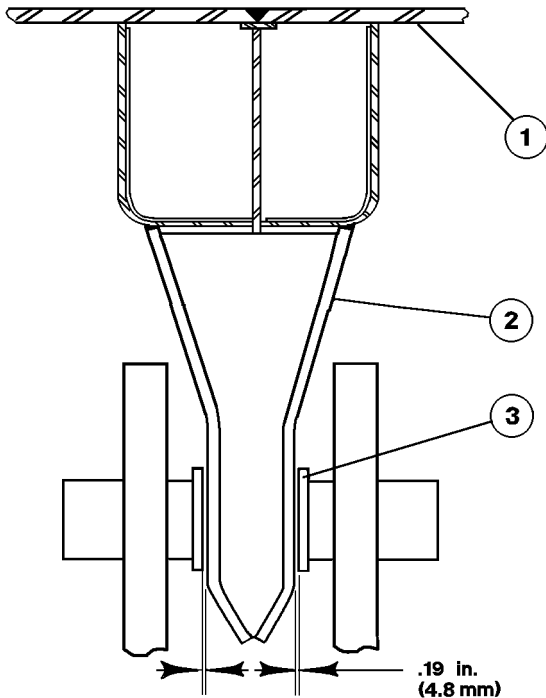

FIGURE 3-6. BODY GUIDE
1. Inspect the body guide wear points each time a body pad inspection is performed. Body guide (2, Figure 3-6) should be centered between wear plates (3) with a maximum gap of 4.8 mm (0.19 in.) at each side (new wear plates).